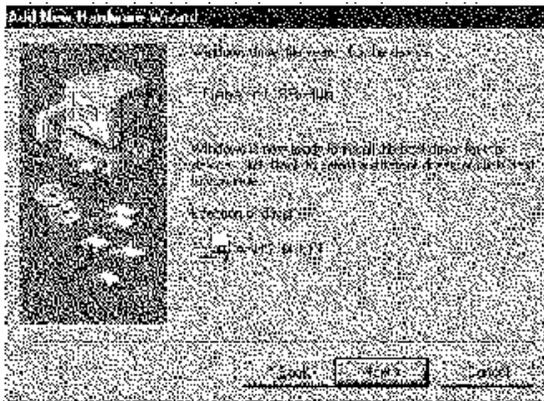
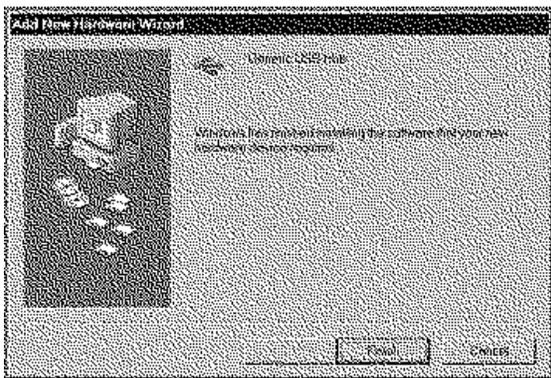

Figure 7
Figure 8
- (1) Connect the computer and the display monitor with the included USB cable. Figure 7 will appear.
- (2) Click "Next" on Figure 7 to get Figure 8.
- (3) Click "Finish" on Figure 8 to complete the enumeration of USB HUB.